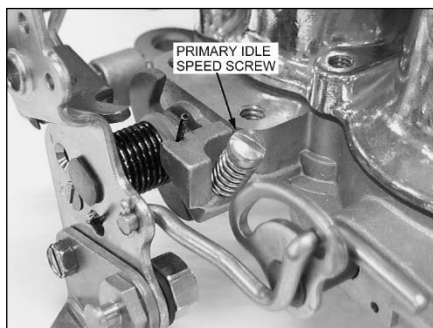

Figure 3
5. If the idle speed is slower than recommended, turn the screw clockwise to speed up the rpm. If the idle speed is too fast, turn the idle screw counter-clockwise to slow down. See Figure 3